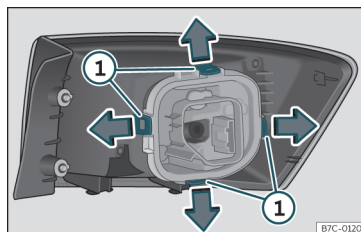

Fig. 92 Retaining tabs on reverse side of tail light.
7. Disassemble the bulb holder unlocking the securing tabs >>> **Fig. 92 ①**.